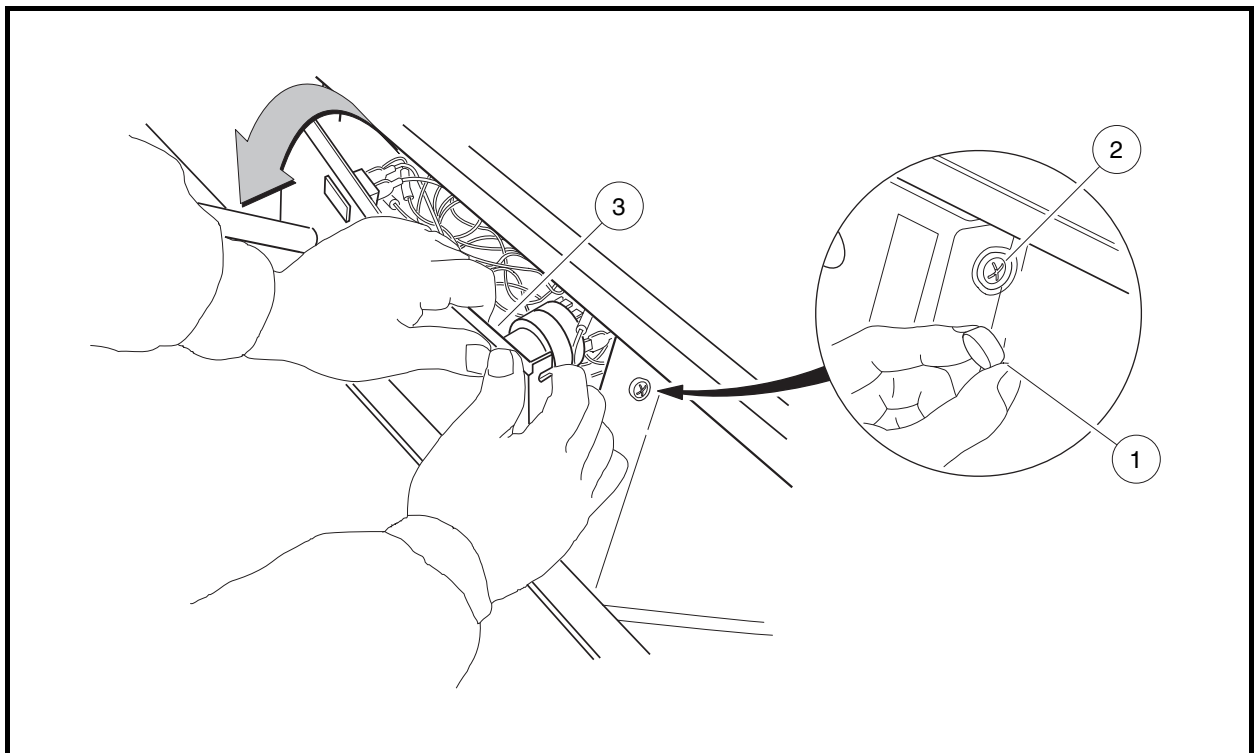

Figure 7-4 Dash Removal
3. Remove the center dash panel (**Figure 7-4, Page 7-4**).
- 3.1. Remove the plastic cap (1) covering the mounting screw (2) on each side of the center dash panel (3) (**Figure 7-4, Page 7-4**).